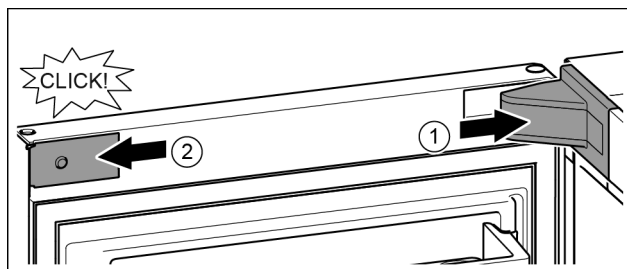

Fig. 41
- Position the bearing bracket and engage. If necessary push apart carefully. Fig. 41 (1)
- Position the panel on the side and click into place. Fig. 41 (2)